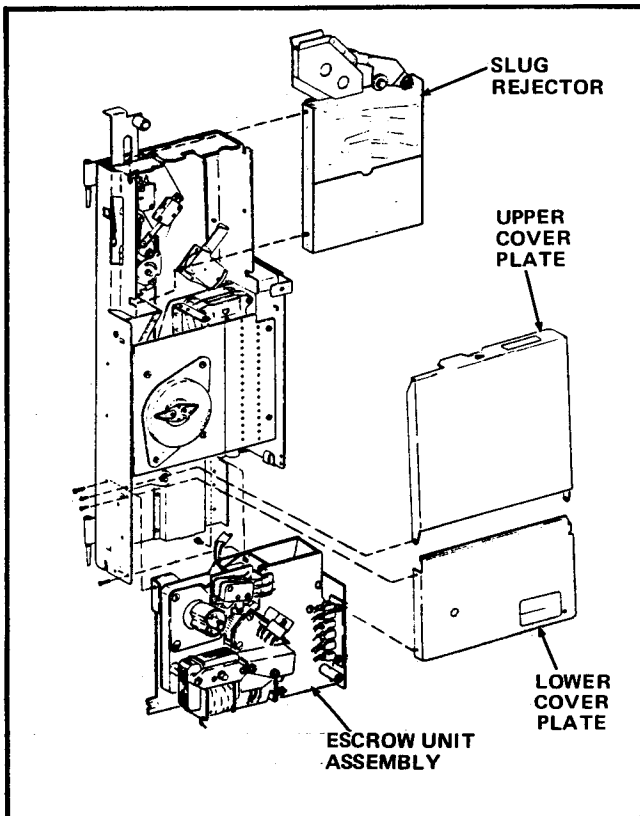

FIGURE 2
- A. Remove the Coin Mechanism from the Merchandiser. See Figure 2.
- D. Remove the Upper Cover Plate (See Figure 2) as follows:
- E. Remove the four Screws and the Lower Cover Plate from the Coin Mechanism. See Figure 2.
- F. Remove the Escrow Unit Assembly (See Figure 2) as follows:
6. Attach the back of the Escrow Unit Assembly to the Rear Plate Assembly using the Screw removed in step F-3. See Figure 2 for location of the screw hole.